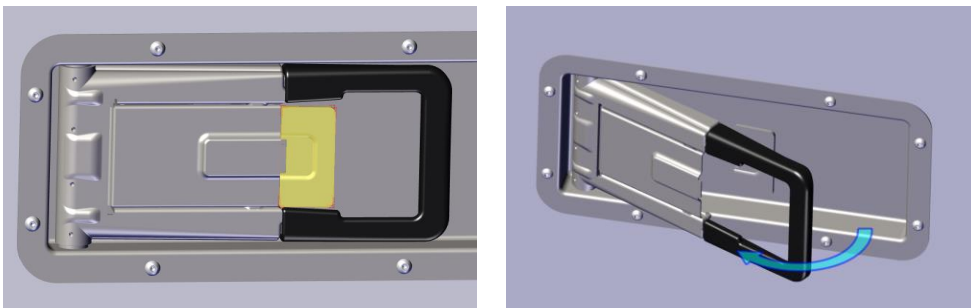

Figure 14 - Door handle opening.
1. Press the button on the door (**Figure 14** marked yellow in left figure);
2. Pull the handle (**Figure 14** marked in black on both figures);